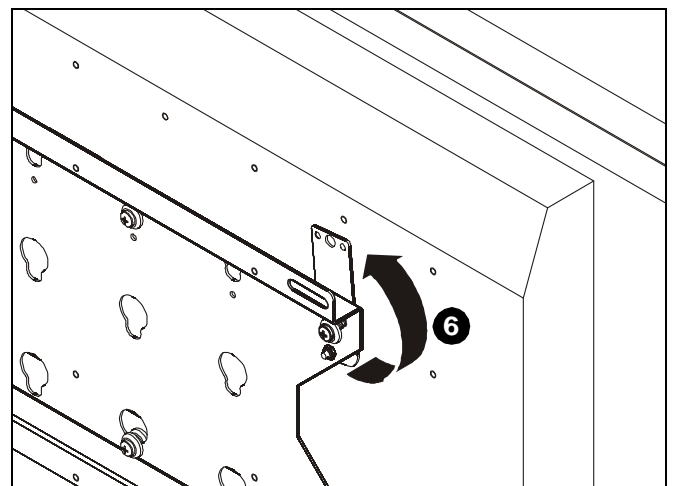

Figure 4
6. Raise the latching flag to the locked position to secure display to mount. (See Figure 4)